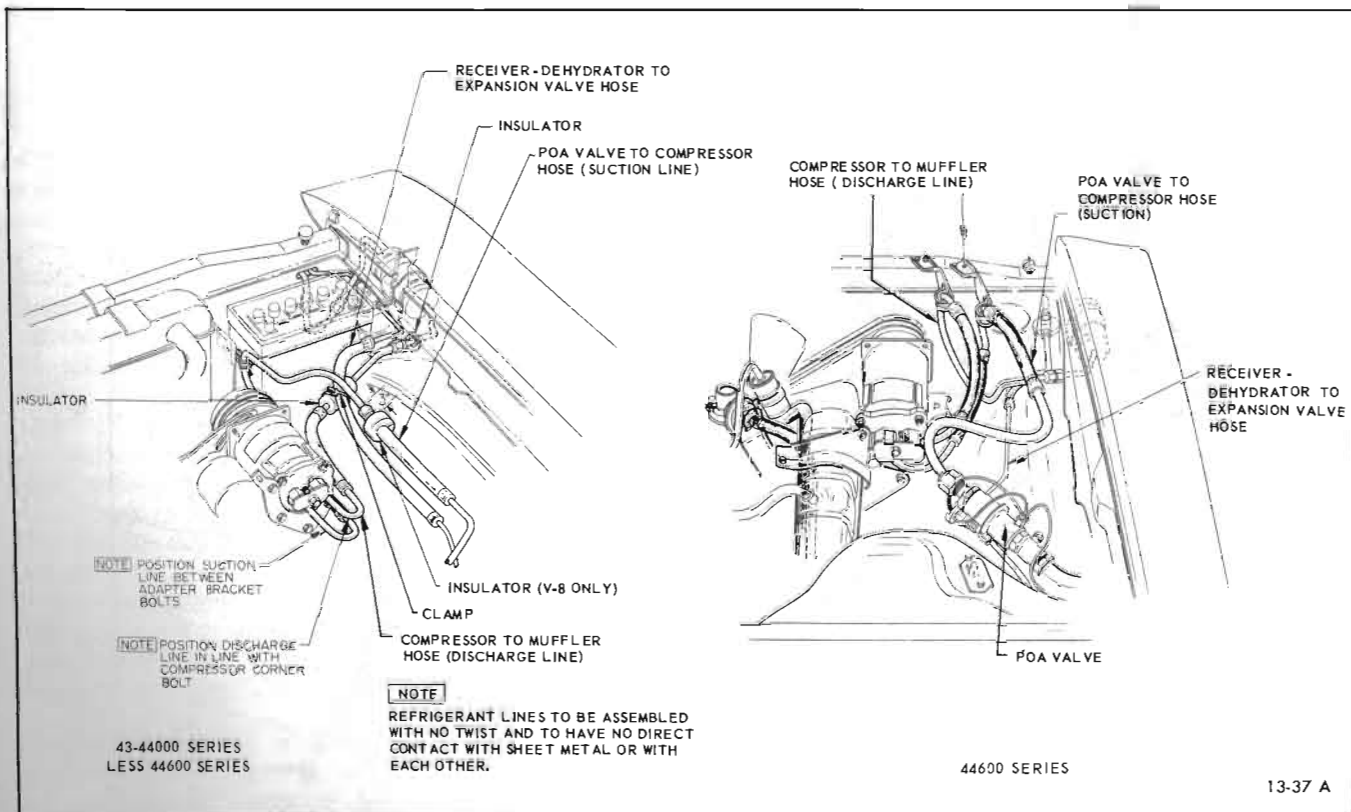

Figure 13-37—Refrigerant Hose Installation
4. Check that compressor lines are properly aligned and do not have any direct contact with sheet metal or each other (see Figure 13-37).